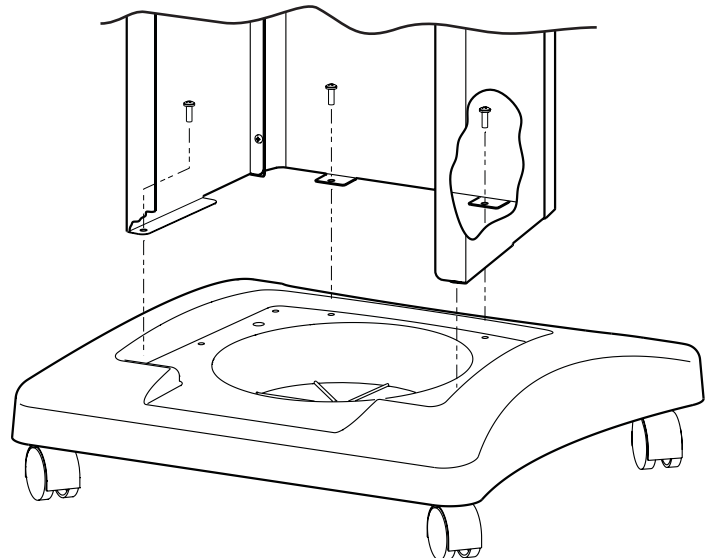

Figure 4
4. Secure the completed assembly to the base with four 1/4-20 x 3/4" Phillips screws. See Figure 4. Note: Plastic base comes with factory installed threaded inserts. Install all four screws before tightening.